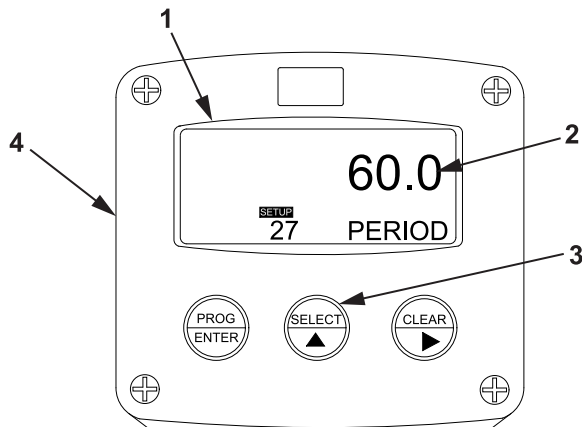

Figure 16. 60.0 Display.
- n. Verify that 60.0 (Figure 16, Item 2) appears on the display screen (Figure 16, Item 1). If 60.0 (Figure 16, Item 2) does not appear, perform the procedure to program tank volume meter monitor settings and select 60.0 (Figure 16, Item 2).
- o. Press the SELECT key (Figure 16, Item 3) on the tank volume meter monitor (Figure 16, Item 4).